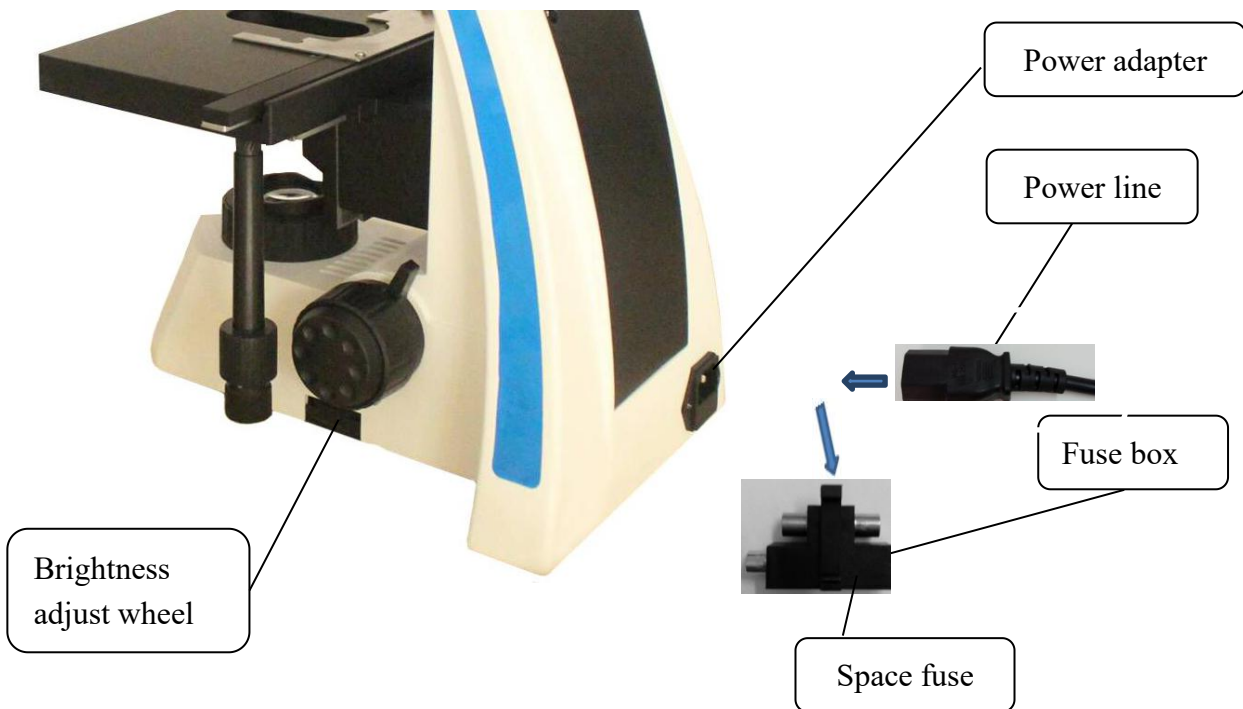

Figure 4
### 4.1 Electronic parts (Figure 4)
***Exchange fuse: as figure 4, draw out fuse box and take off trouble fuse, set spare fuse to fuse box. Put box back to holder.***